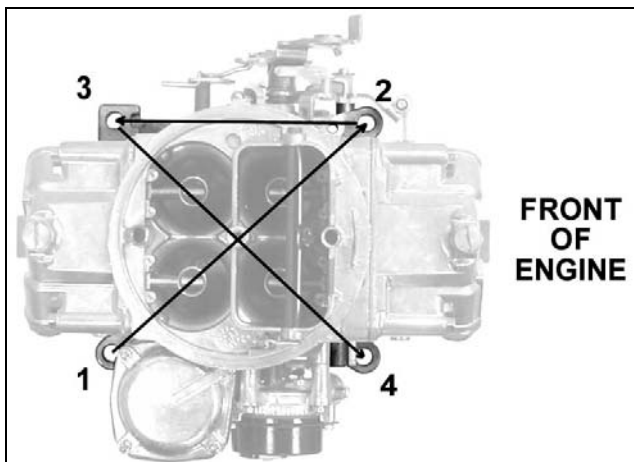

Figure 4
7. Place the carburetor on top of the intake manifold, making sure to engage the transmission kickdown stud. Hand install the hold-down nuts first and then progressively snug down in a criss-cross pattern with a proper wrench. See Figure 4.